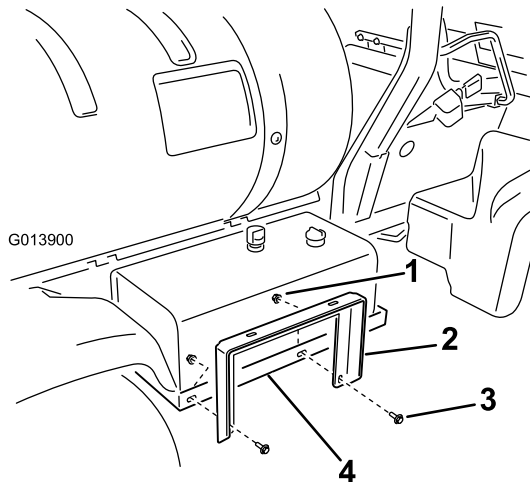

Figure 8
1. Install the hose reel support to the hydraulic reservoir mount (Figure 8) using 2 flange-head bolts (3/8 x 1 inch) and 2 flange nuts (3/8 inch). Do not fully tighten the nuts to allow for adjustment later.
3. Attach the hose reel support to the hose reel straps (Figure 8) using 2 flange-head bolts (3/8 x 1 inch) and 2 flange nuts (3/8 inch).